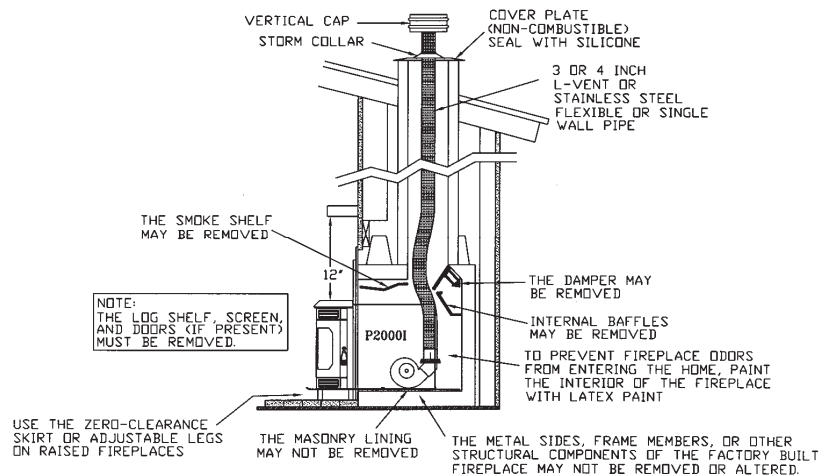

FIGURE 18
E. INSTALLATION IN TO A FACTORY BUILT (METAL) FIREPLACE (refer to figure 18)